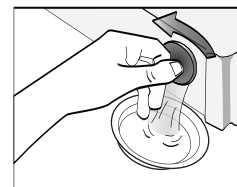

Fig 19
- 4.Reconnect the inlet pipe to tap. Remove the remaining water in drain pump (Fig19).